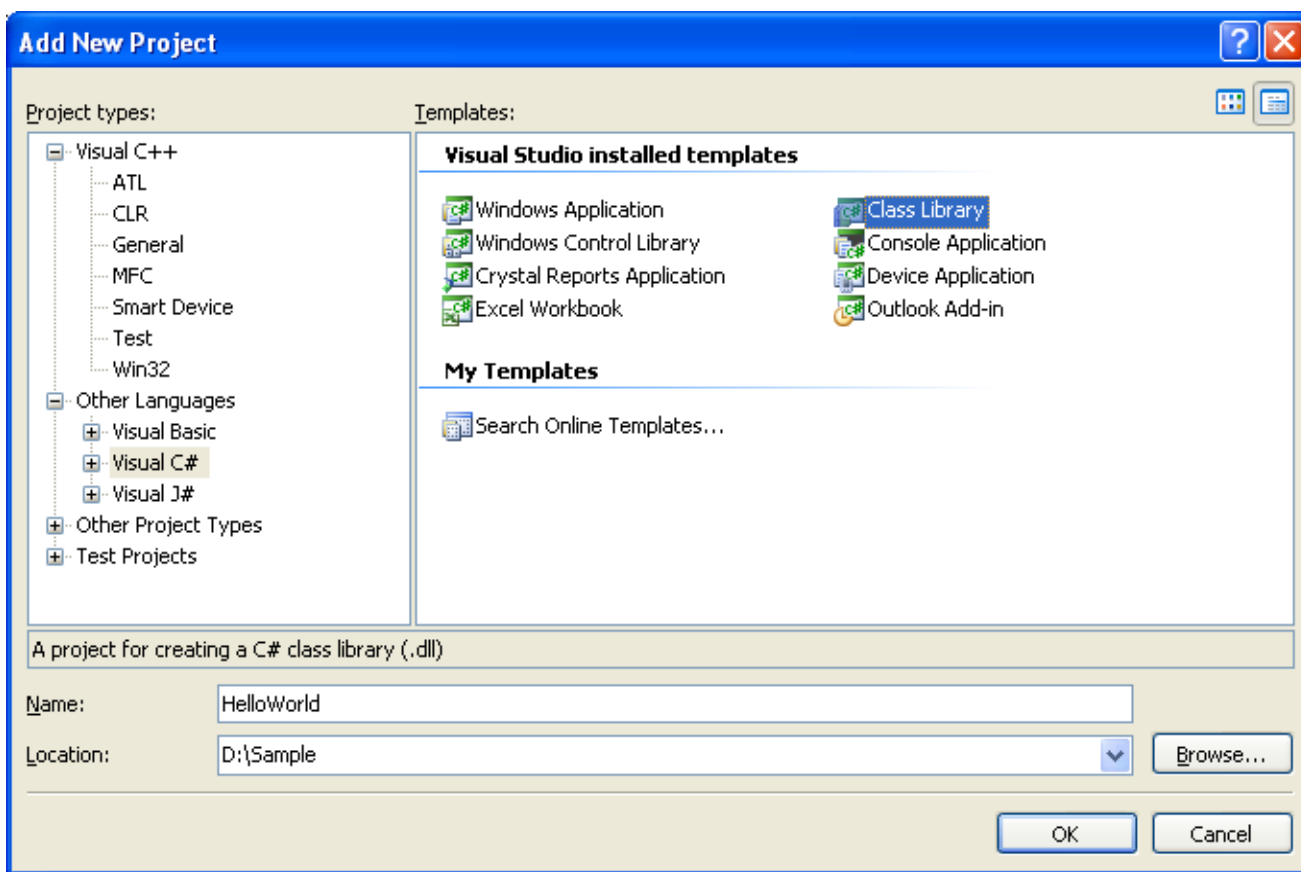

Figure 1: Add New Project
3. In the Templates frame, click Class Library (see Figure 1: Add New Project below). This walkthrough assumes that the project location is: D:\Sample.